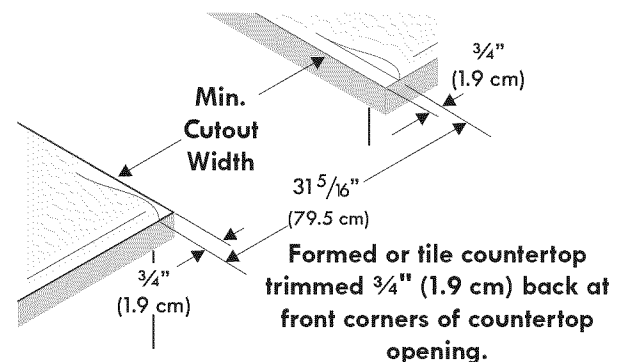

Figure 7
- **Formed front-edged countertops** must have molded edge shaved flat  $\frac{3}{4}$ " (1.9 cm) from each front corner of opening (Fig. 7).
- **Tile countertops** may need trim cut back  $\frac{3}{4}$ " (1.9 cm) from each front corner and/or rounded edge flattened (Figure 7).